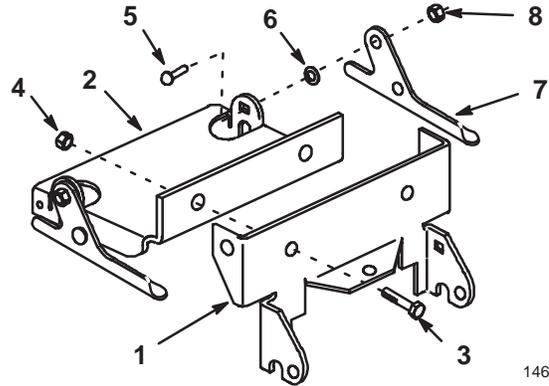

Figure 7
3. Assemble rear mounting plate and blade bracket with (2) 1/2 x 1-1/4" bolts (heads toward the rear) and (2) 1/2" lock nuts through holes in vertical plates (Fig. 7).
4. For blade use latch levers must be installed onto the blade bracket (Fig. 7). If necessary remove latch levers from rear mounting plate and move to the blade bracket. Secure with previously removed hardware (Fig. 7).